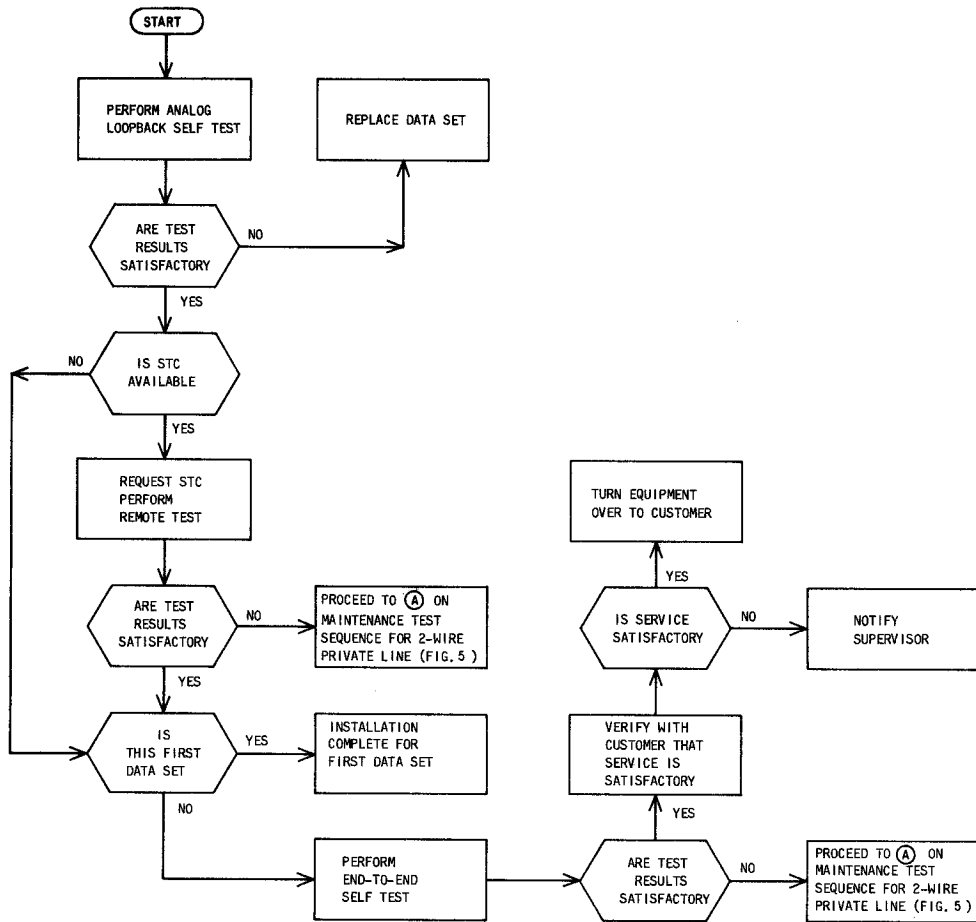

Fig. 1—Installation Test Sequence (2-Wire Private Line)
**2.02** Before proceeding with the tests, verify that the private line meets the requirements specified in Section 314-410-500. For a 2-wire private line, the installation test sequence is shown in Fig. 1. For a 4-wire private line, the installation test sequence is shown in Fig. 2.